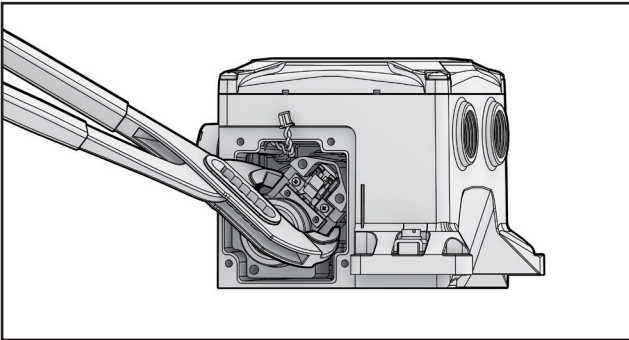

Fig. 81 NDX1510_ Pulling out prestage with pliers.
- Pull out the prestage carefully. It is recommended to use pliers to grab the grooves on the sides of the prestage. Be careful not to touch the moving parts of the prestage. (Fig. 81)